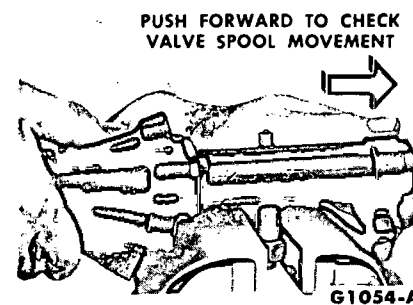

FIG. 16—Inspecting Valve Spool Movement
19. Install the nut on the ball stud so that the valve can be positioned in a vise as shown in Fig. 16. Then push forward on the cap end of the valve to check the valve spool for free movement.